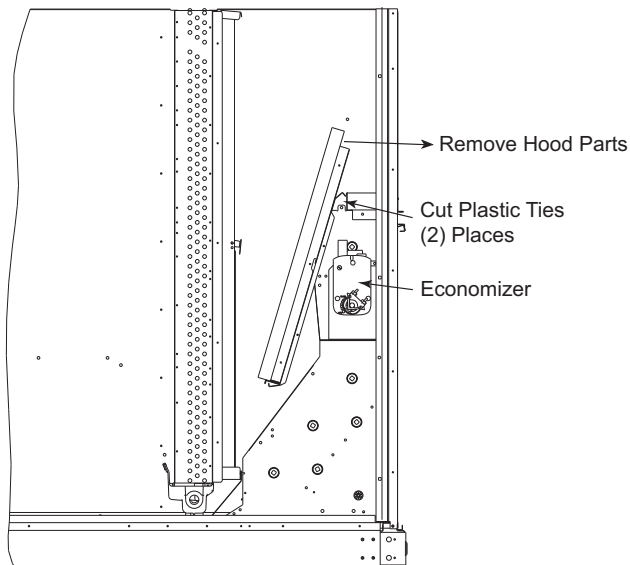

Fig. 13 — Economizer Hood Package Location
3. Locate and cut the (2) plastic tie-wraps, being careful to not damage any wiring. (See Fig. 13.)